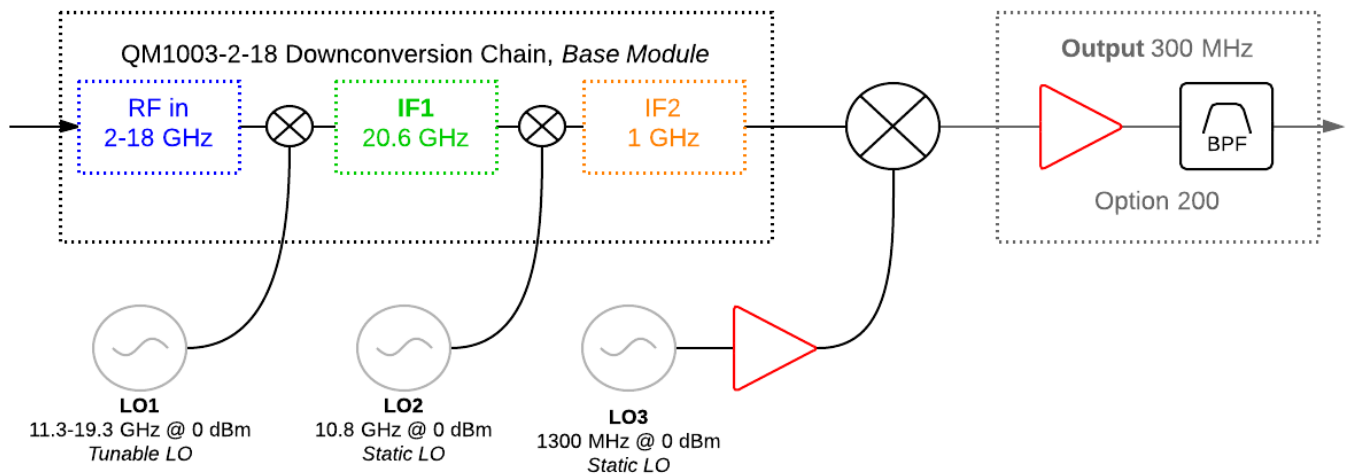

Figure 6 - Option 200 Frequency Conversion Block Diagram
Option 200 moves the IF output frequency range from 750-1250 MHz down to 50-550 MHz. This modification requires a third frequency conversion stage which converts the 1 GHz output IF, shown in Figure 5, down to an IF output frequency centered at 300 MHz. This frequency plan change is outlined in Figure 6. The LO1 calculation remains the same as in equation (3).